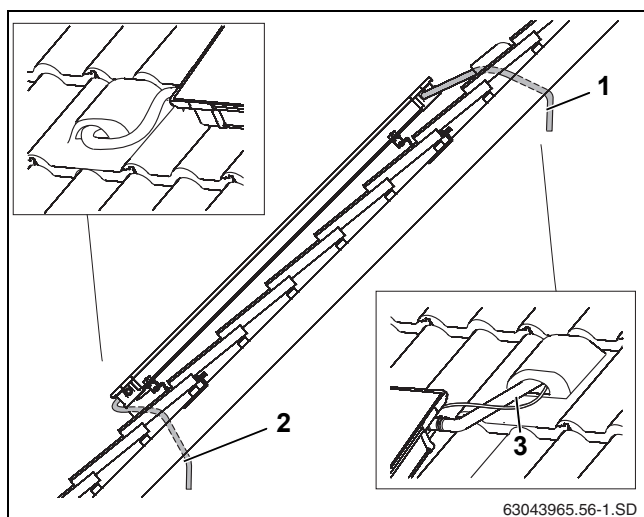

Fig. 49 Run the cables under the rooftop
- Run the hose together with the probe cable along the ventilated tile (Fig. 49, [1]) and through the rooftop insulation.